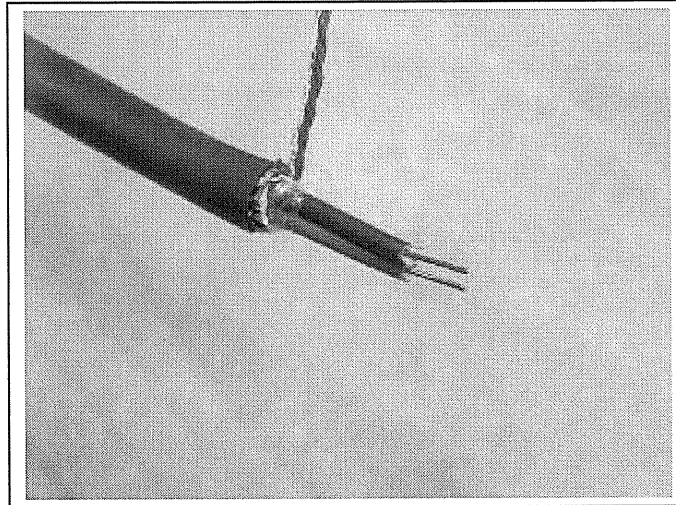

Figure 4-7. Stripping the Data Cables
- 2 Leave no more than 1 cm of the data cable outside the terminal block and strip the data cables at about 0.5 cm to fit in the terminals. See Figure 4-7. Note: Do this for both bus cables.